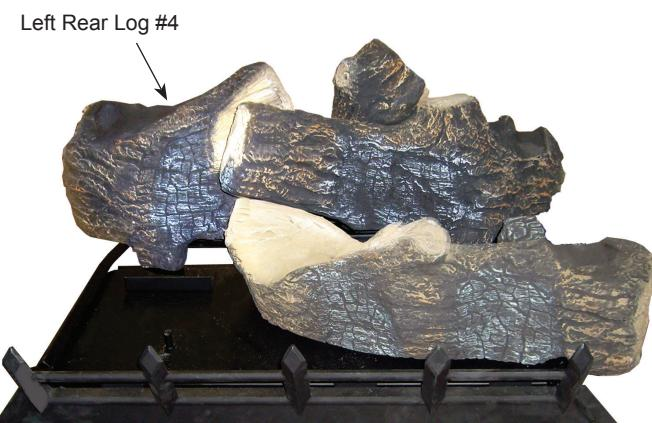

Figure 27. Place Left Rear Log #4
4. Place left rear log (#4) on pin located on rear support bracket on left side. Figure 27